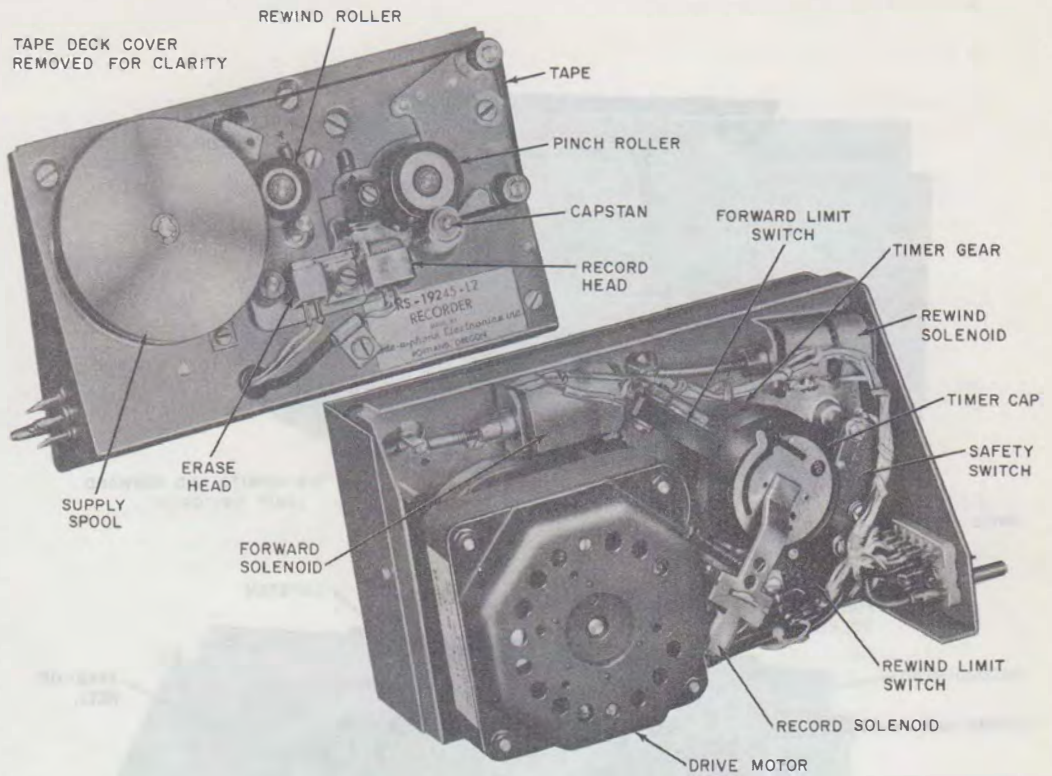

Fig. 8—KS-19245, List 2 Recorder Front and Rear Views
**15.02** Refer to Fig. 8 and 9 for reference with operational procedure.